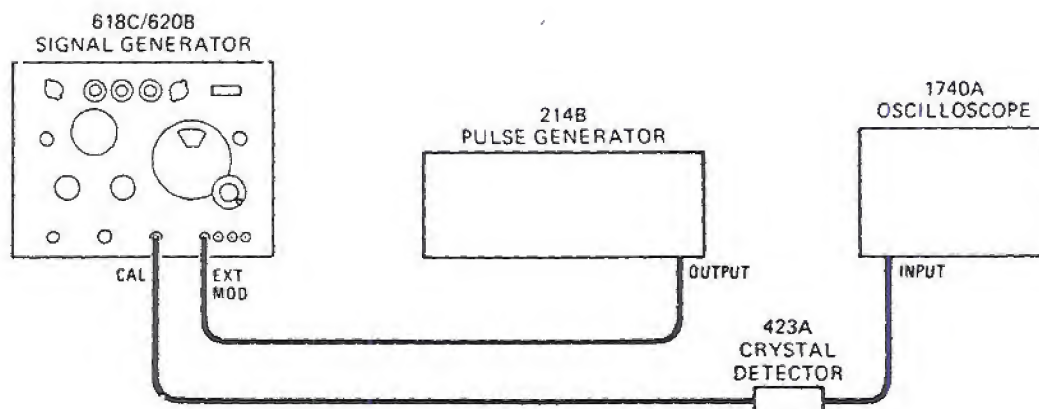

Figure 5-4. Setup for Testing External Pulse Modulation
a. Connect Signal Generator in test setup shown in Figure 5-4.